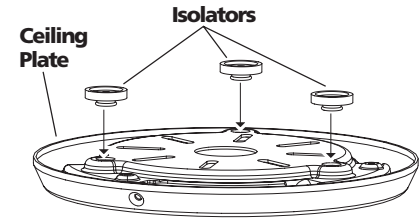

Figure 2a - Adding Isolators to Ceiling Plate
3. Position the three isolators between the ceiling plate and ceiling by inserting the raised areas on each isolator into the holes in the ceiling plate. Refer to Figure 2a.